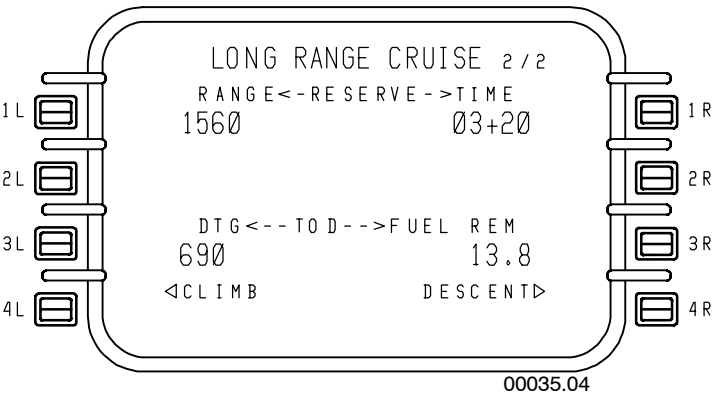

Figure 5-33
- **CRUISE 2/2** - Figure 5-33 shows range and TOD information. No entries are permitted.